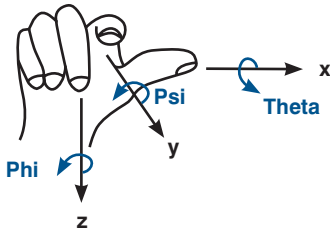

Fig. 3: Coordinate direction
* Basis for the direction of rotation is the right-handed system, rotation around Psi (see Fig. 3).